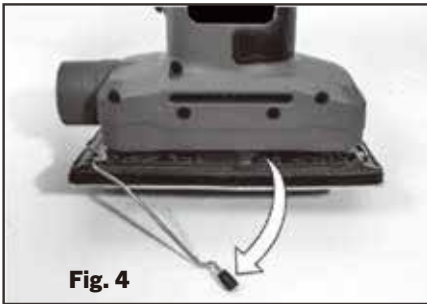

Fig. 4
1. Push the clamp lever inwards to clear the securing tag. The lever is under spring tension. Allow the lever to raise upwards and then manoeuvre outwards and downwards, Fig 4.